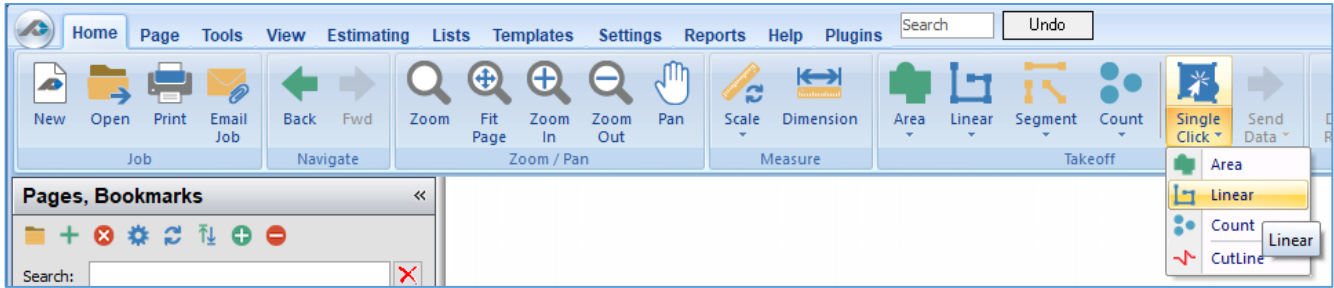

Figure 31-A
1. Click on the drop-down half of the **Single Click** button and select **Linear** (or **Count**) from the drop-down menu (Fig. 31-A), then follow the steps for a single-click area takeoff.